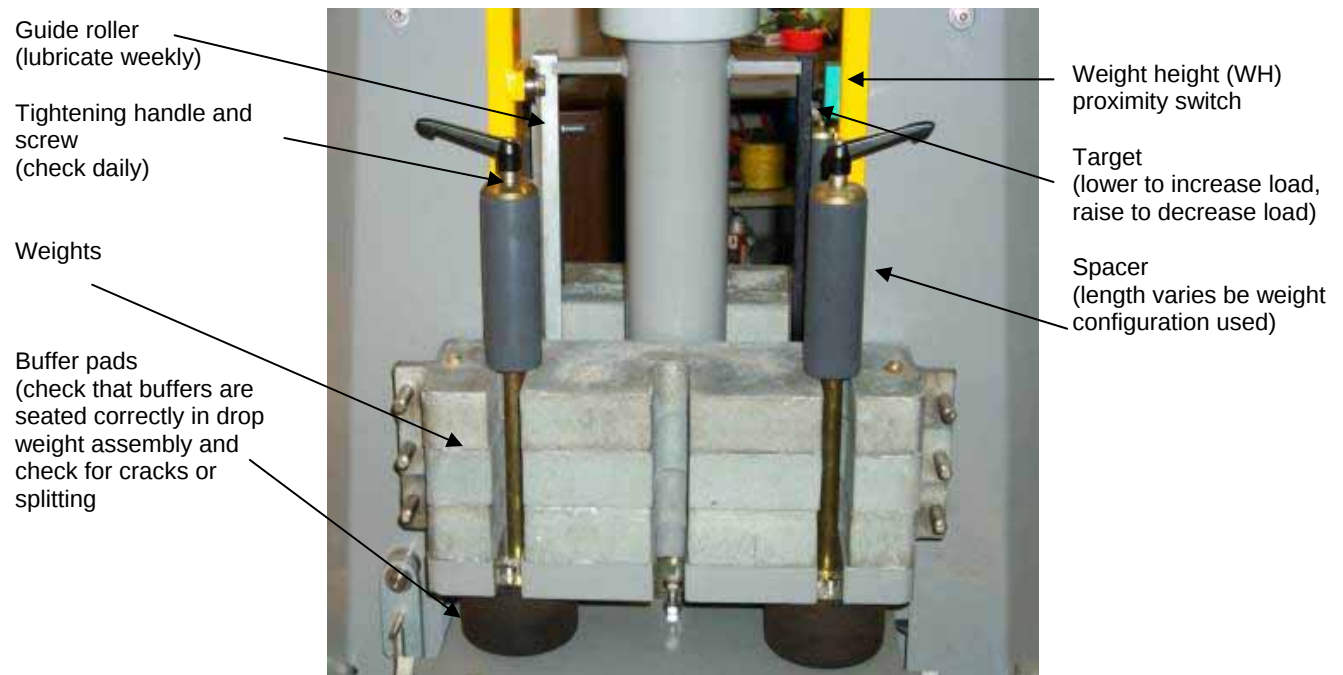

Figure 39. Weights on the drop weight assembly.
6. Stack the weights over the buffer plates on the drop plate and tighten securely (figure 39).